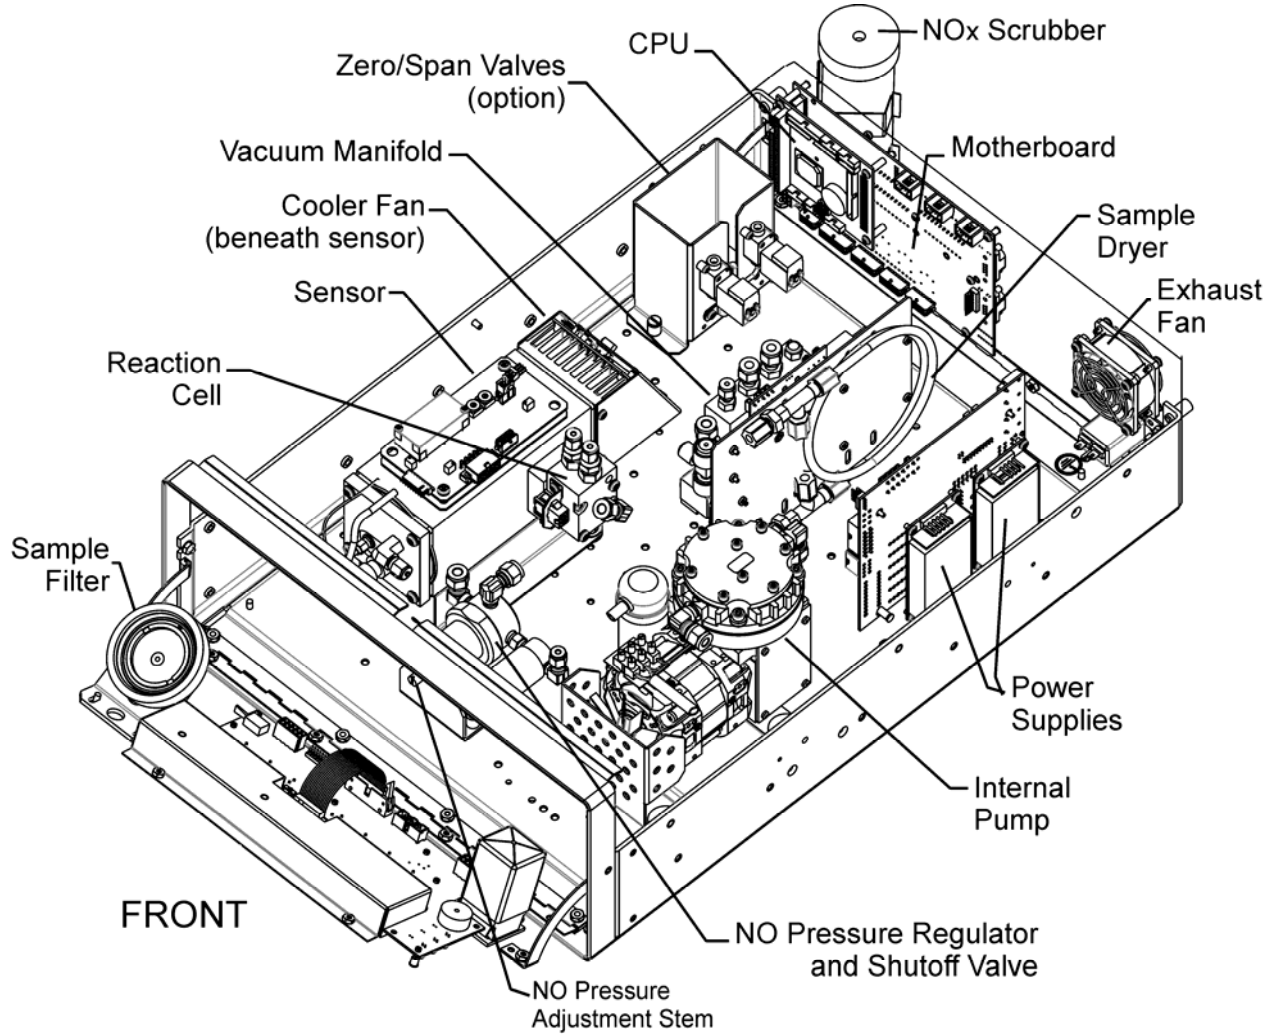

Figure 3-3. Internal Layout
Figure 3-3 illustrates the location of the internal chassis components.
- If the pressure is out of this range, check that the cylinder regulator is set to 20 PSIG, then drop the front panel and use a flat head screw driver to turn the NO Pressure Adjustment Stem (Figure 3-3) to adjust the NO pressure regulator: clockwise to increase; counter-clockwise to decrease.